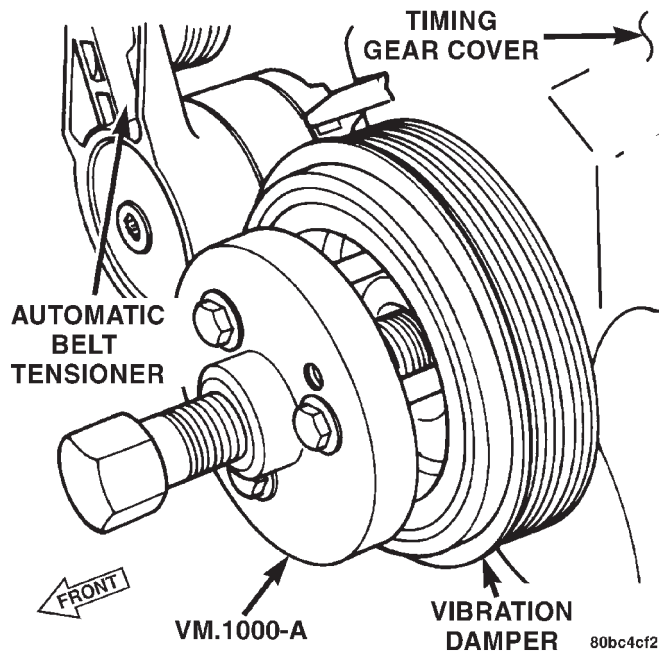

Fig. 76 VM.1000-A
- (1) Disconnect the negative battery cable.
- (2) Remove the fan and set fan inside fan shroud then remove fan shroud and fan as an assembly.
- (3) Remove the accessory drive belt. Refer to Group 7, Cooling System for procedure.
- (4) Remove the vibration damper nut.
- (5) Install special tool VM.1000-A to remove the vibration damper (Fig. 76).